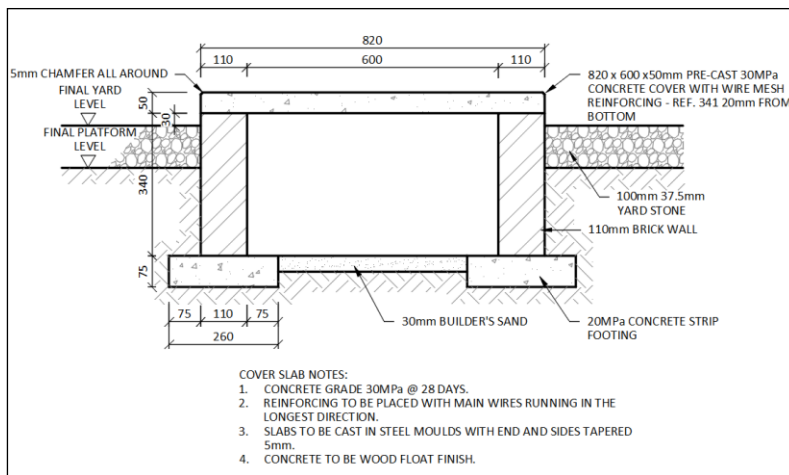

Figure 50: Typical Brick Trench Detail
- Figure 50: Typical brick trench detail.